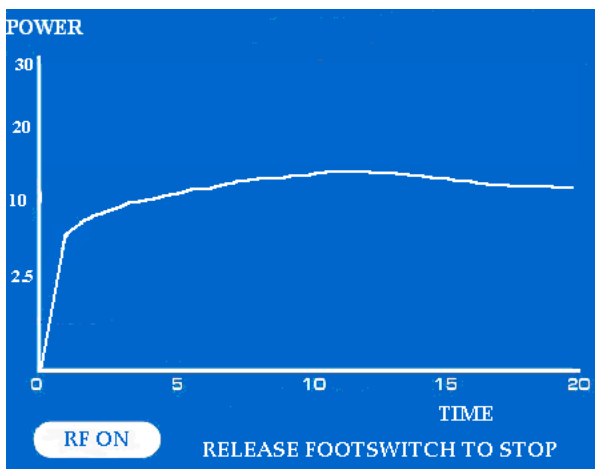

Figure 11: Power Display Graph (Isolator Pens) indicating RF ON Mode (wrapping now shown)
- i. The real-time graph of measured Power delivered to the tissue is displayed on the LCD graphics screen with a $\pm 20\%$ tolerance. The Power graph is on a 20-second scale (refer to **Figure 11**).
- ii. The system will automatically time out and stop the ablation if the user does not release the Footswitch within 40 seconds (refer to **Figure 11**).